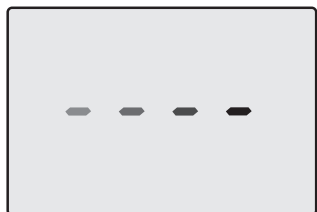

Fig. 7.7
- Electrically power the boiler by switching on the double pole isolation switch. The LCD will display, the — — — — symbol (Fig. 7.7).
- Switch off the boiler by pressing the 12 (Fig. 7.8) key for 2 seconds until the — — — — symbol appears on the LCD display (Fig. 7.7).